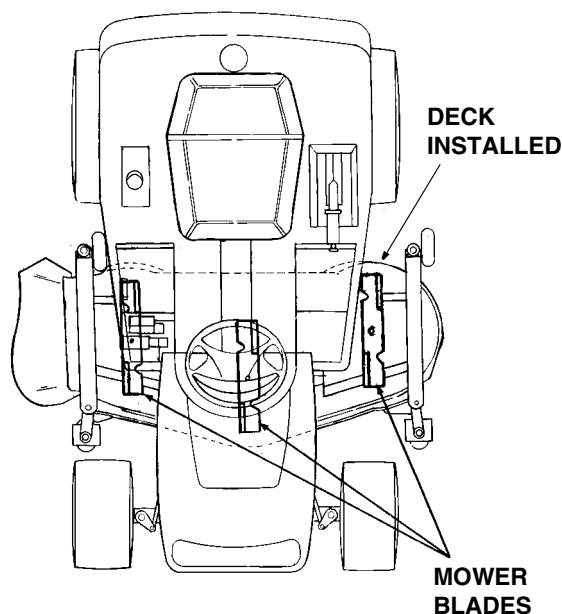

Figure 60
3. Position the mower blades so the ends of each blade point to the front and the rear of the tractor (Refer to Figure 60).